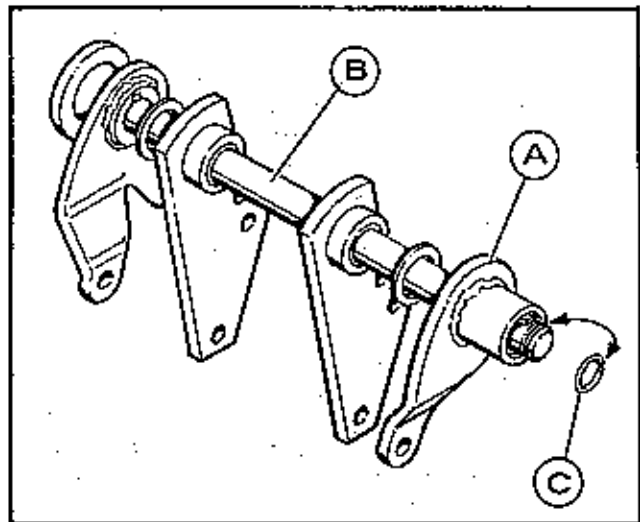

FIGURE 2
3. See figure 2. Push the right lift arm (A) of the lift arm assembly about one inch toward the center of the shaft (B) to expose retaining ring (C).
4. Remove retaining ring (C), being careful not to damage or loose it as it will be needed later. Slide the right lift arm (A) off the end of shaft (B).